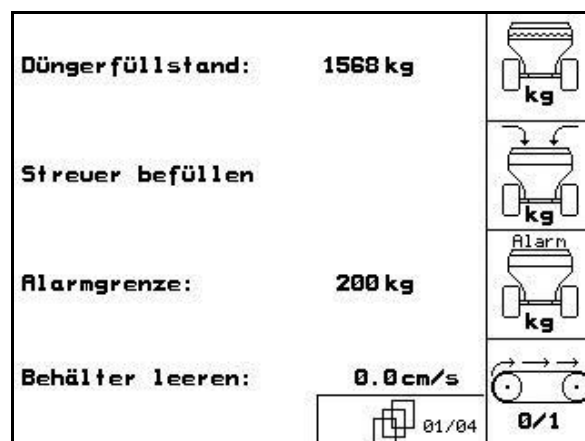

Fig. 5
Side 1 (Fig. 5)
- ZG-B Drive:** (Fig. 5)